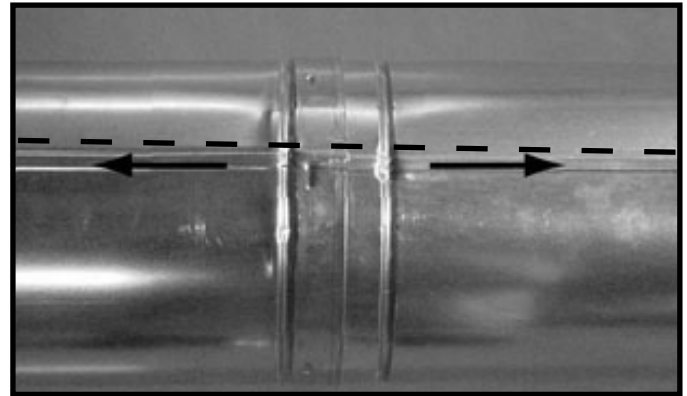

Figure 7.10 Align and Disassemble Vent Sections
- Rotate either section (see Figure 7.9) so the seams on both pipe sections are aligned as shown in Figure 7.10.